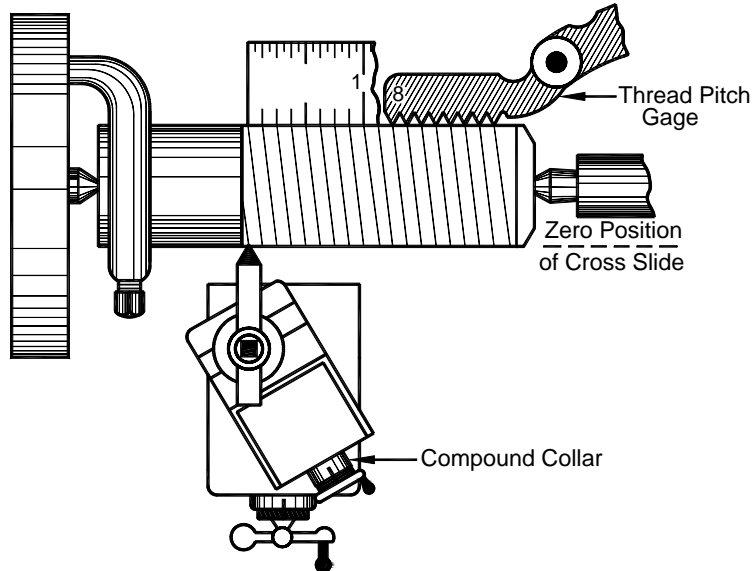

Figure 7–139. Checking thread pitch after initial threading pass.
17. Manually move the carriage to Position 1 as in Figure 7–140. Then, using the collar calibrations, move the cross slide to the zero position, Position 2. With the compound, advance the tool bit in preparation for the next thread cut, Position 3. Use Table 7–9 as a rough guide for the depth of each pass. The idea is to use cross slide motion to pull the tool away from the workpiece at the end of the thread and move the tool back to the zero position for the next pass. Once the compound collar has been set to zero, the compound is incremented for each pass and is never used to pull the tool away from the work.